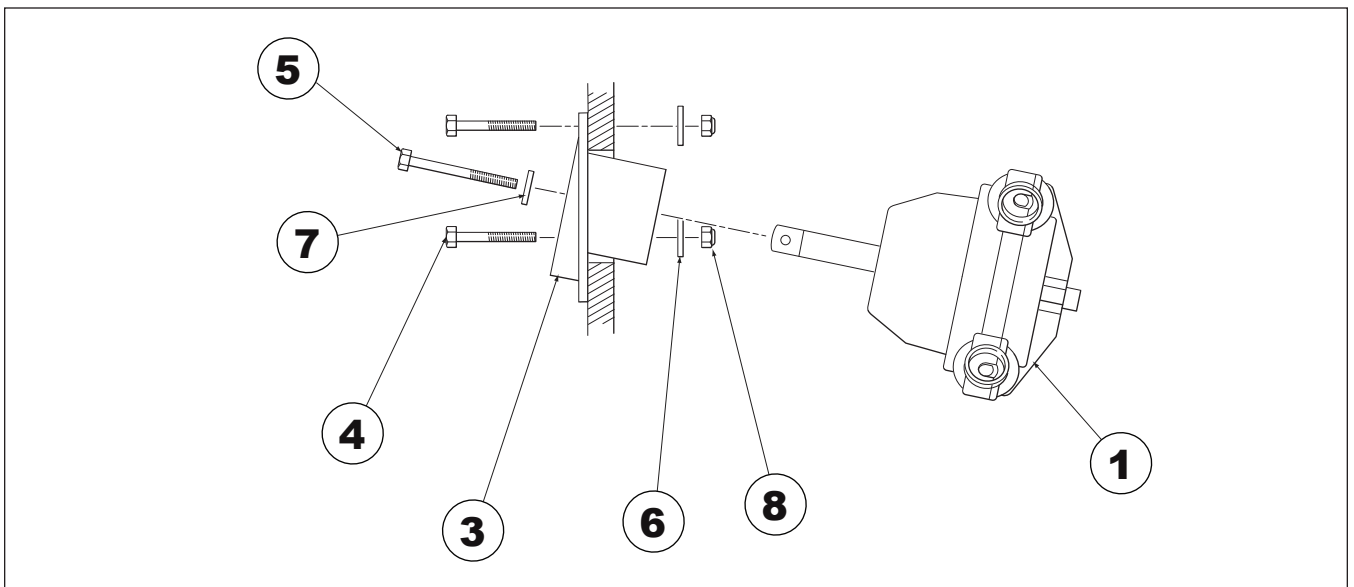

Figure 3.
Secure the helm mounting plate (item 3) in position using three each of the 2-1/8" long hex bolts (item 4), large OD flat washers (item 6), and locknuts (item 8). Be sure the washers are on the inside of the dash as shown (see figure 3). Tighten securely. Items 3, 4, 6 and 8 are included with tilt mechanism.
Referring to figure 3, above for the most common applications: Insert shaft of helm (item 1) through hole in the mounting plate so that the helm's cable entry spigot is facing the direction of cable routing when viewed from the front of the dash. Attach the helm securely to the mounting plate using washers (item 7) and hex bolts (item 5) threaded into the helm.